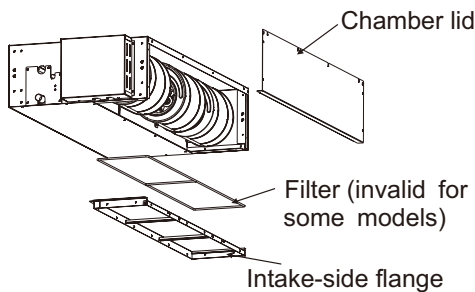

Fig. 3.1.4
- (2) Reattach the removed chamber lid in the orientation shown in Fig. 3.1.4, reattach the removed intake-side flange in the orientation as shown in Fig. 3.1.4